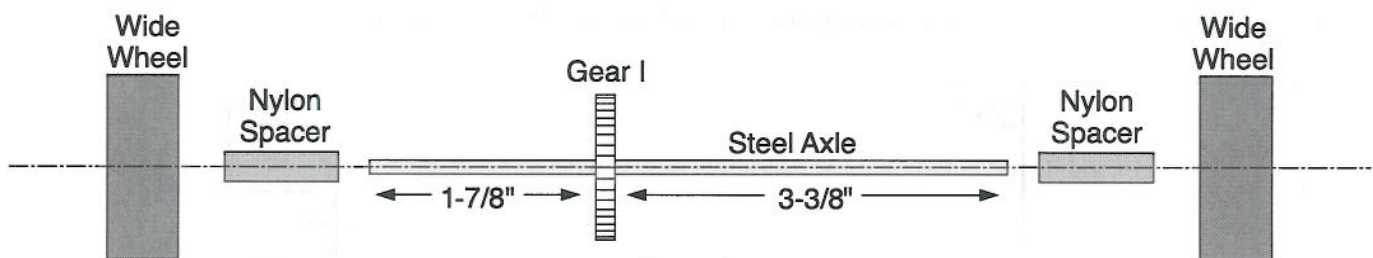

Figure 4
4. Carefully slide the gear 1-7/8" from one end of the axle. It should be 3-3/8" from the other end of the axle (Figure 4).